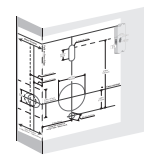

Figure 1b
- Fold the template and place the marker on the door (Figure 1b).